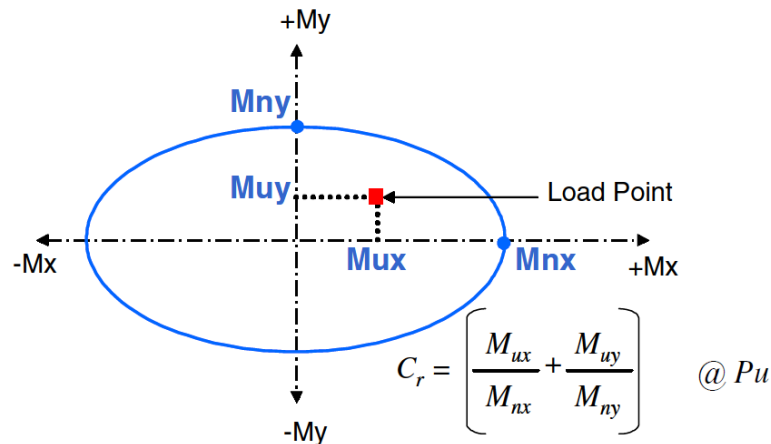

Figure 5.4 Capacity Ratio Based on Moment Sum at P
- Moment Sum at P: It is defined as the sum of individual ratios between the applied moment and the maximum moment capacity about each axis for the given axial load (P_u) as seen in Figure 5.4. The moment capacity is determined by cutting the capacity interaction surface at the given axial load to get a M-M interaction curve.